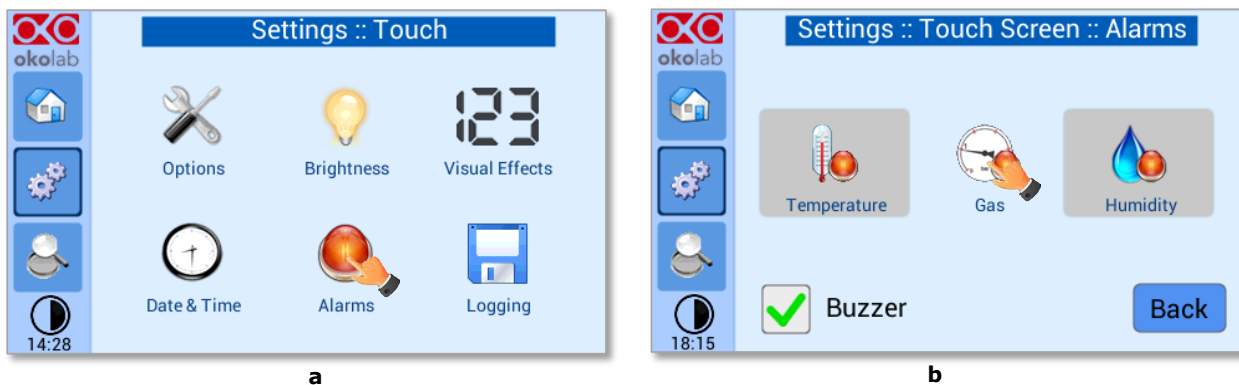

Figure 66. How to enter in Alarms page (a -b).
To set the alarms specifications, press the *Alarms* icon  (see Figure 66 a), then follow the indications below:
1. Click on the Gas icon  to set the gas deviation for a period of time then the system triggers on Alarms, as shown in the Figure 66 b.